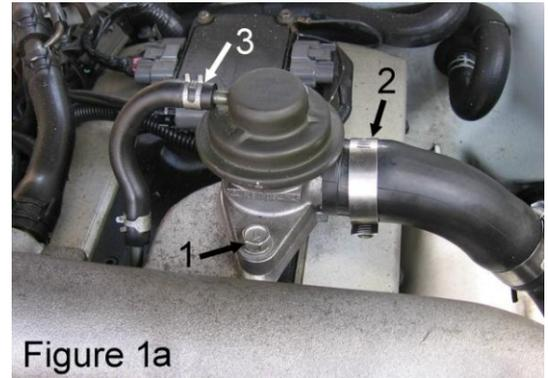

Figure 1a
Remove the two bolts shown in figures 1a or 1b (item 1), taking care not to drop them or the valve gasket. Open the spring clamp (item 3) and pull the vacuum hose free, then loosen the clamp on the recirc hose (item 2) and remove the valve from the car.